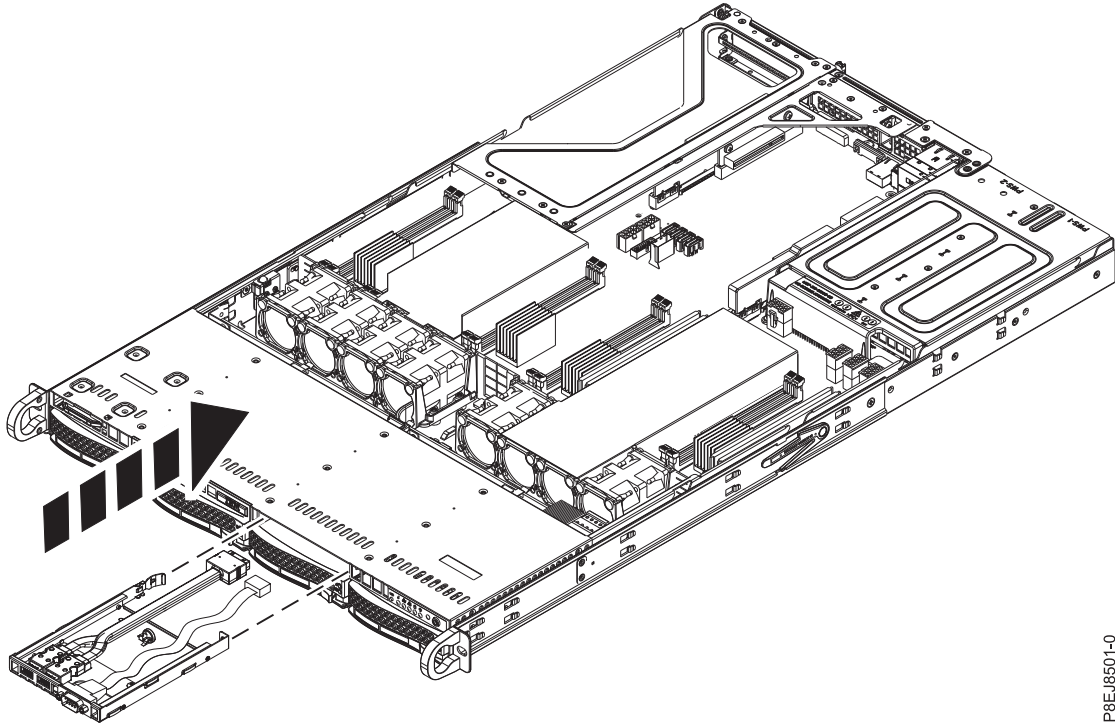

Figure 64. Inserting the USB cable and connectors
2. Route the USB and serial cables in through the front of the system, then slide the USB cable and connectors into of the front of the system as shown in Figure 64 on page 59, until it clicks into place.